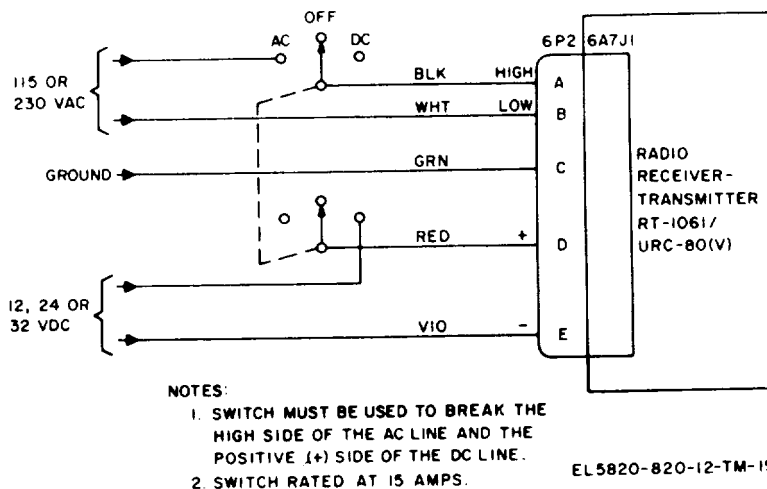

Figure 2-13. Power cable for both ac and dc with manual switchover.
(a) Install connector 6P2 (figure FO-1) in the same manner as described for the three conductor cable in step (3) but connect the black, white, green, red, and violet conductors to pins A, B, C, D, and E of connector 6P2 as shown in figure 2-13.
(b) Connect the other end of the cable to an ac and dc power source through a double-pole double-throw switch as shown in figure 2-13.